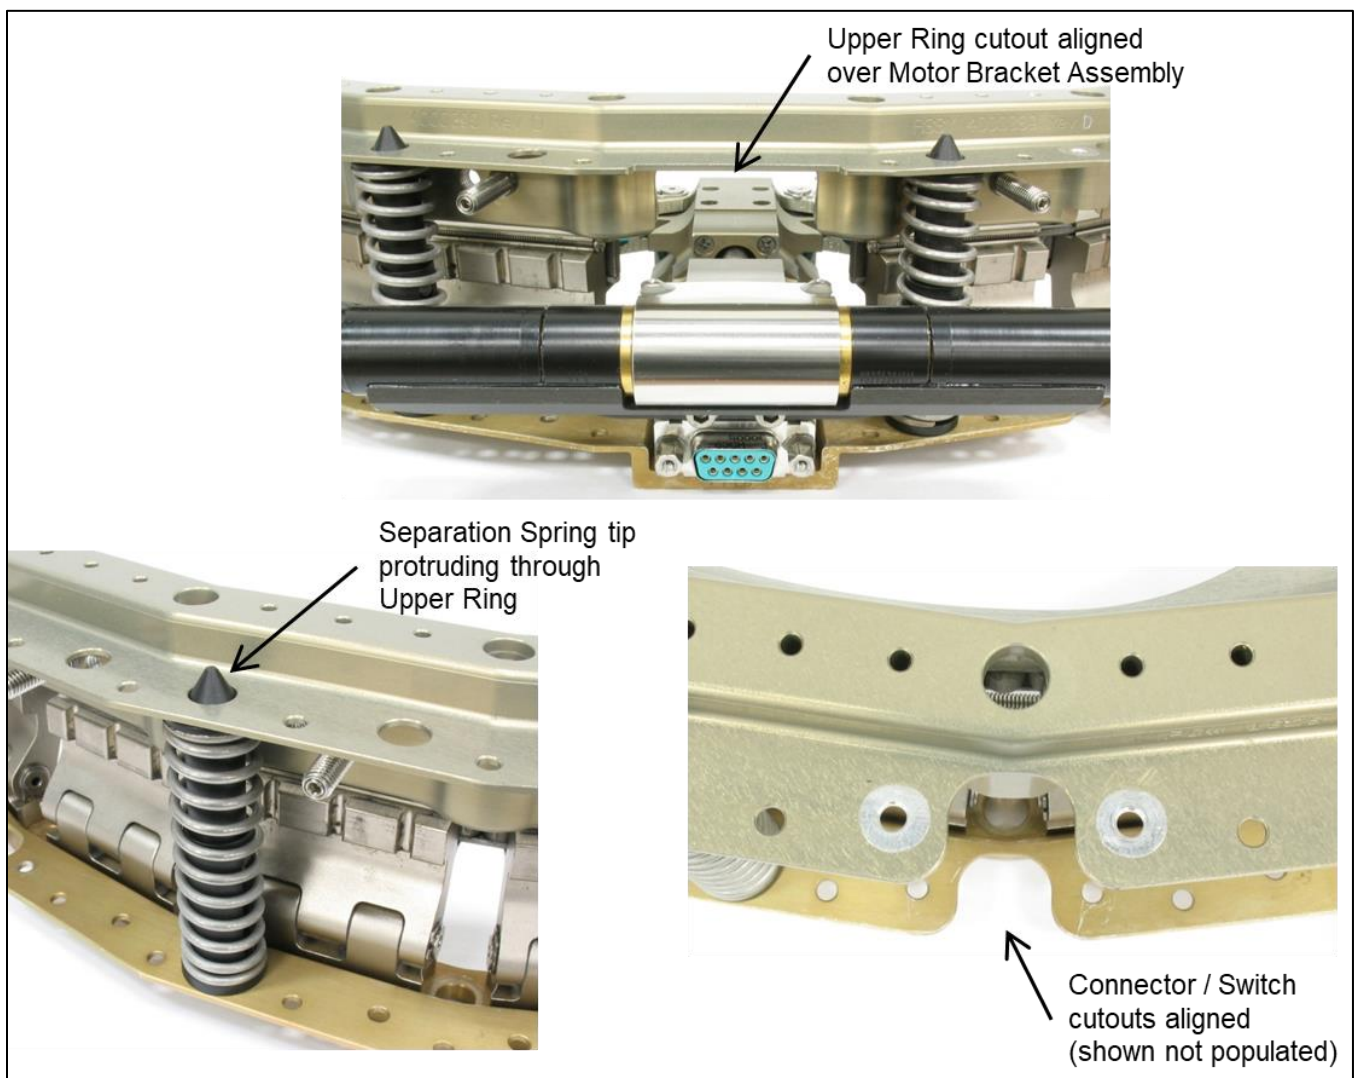

Figure 8-8: Aligning the Lower and Upper Rings.
8.1.12	<p>Move the Upper Ring close to the Lower Ring for alignment checks. Verify alignment before any force is applied to compress the Lightband.</p> <p>Per Figure 8-8 ensure:</p> <ol style="list-style-type: none"> Cutout in Upper Ring aligns over Motor Bracket Assembly on Lower Ring. All Separation Connector/Switch cutouts align. All Separation Spring tips protrude through appropriate holes in the Upper Ring. <p>IMPORTANT: if using a crane to lower a payload, perform all crane adjustments with the Upper Ring entirely above the Separation Spring tips to prevent damage due to excess crane movement.</p>